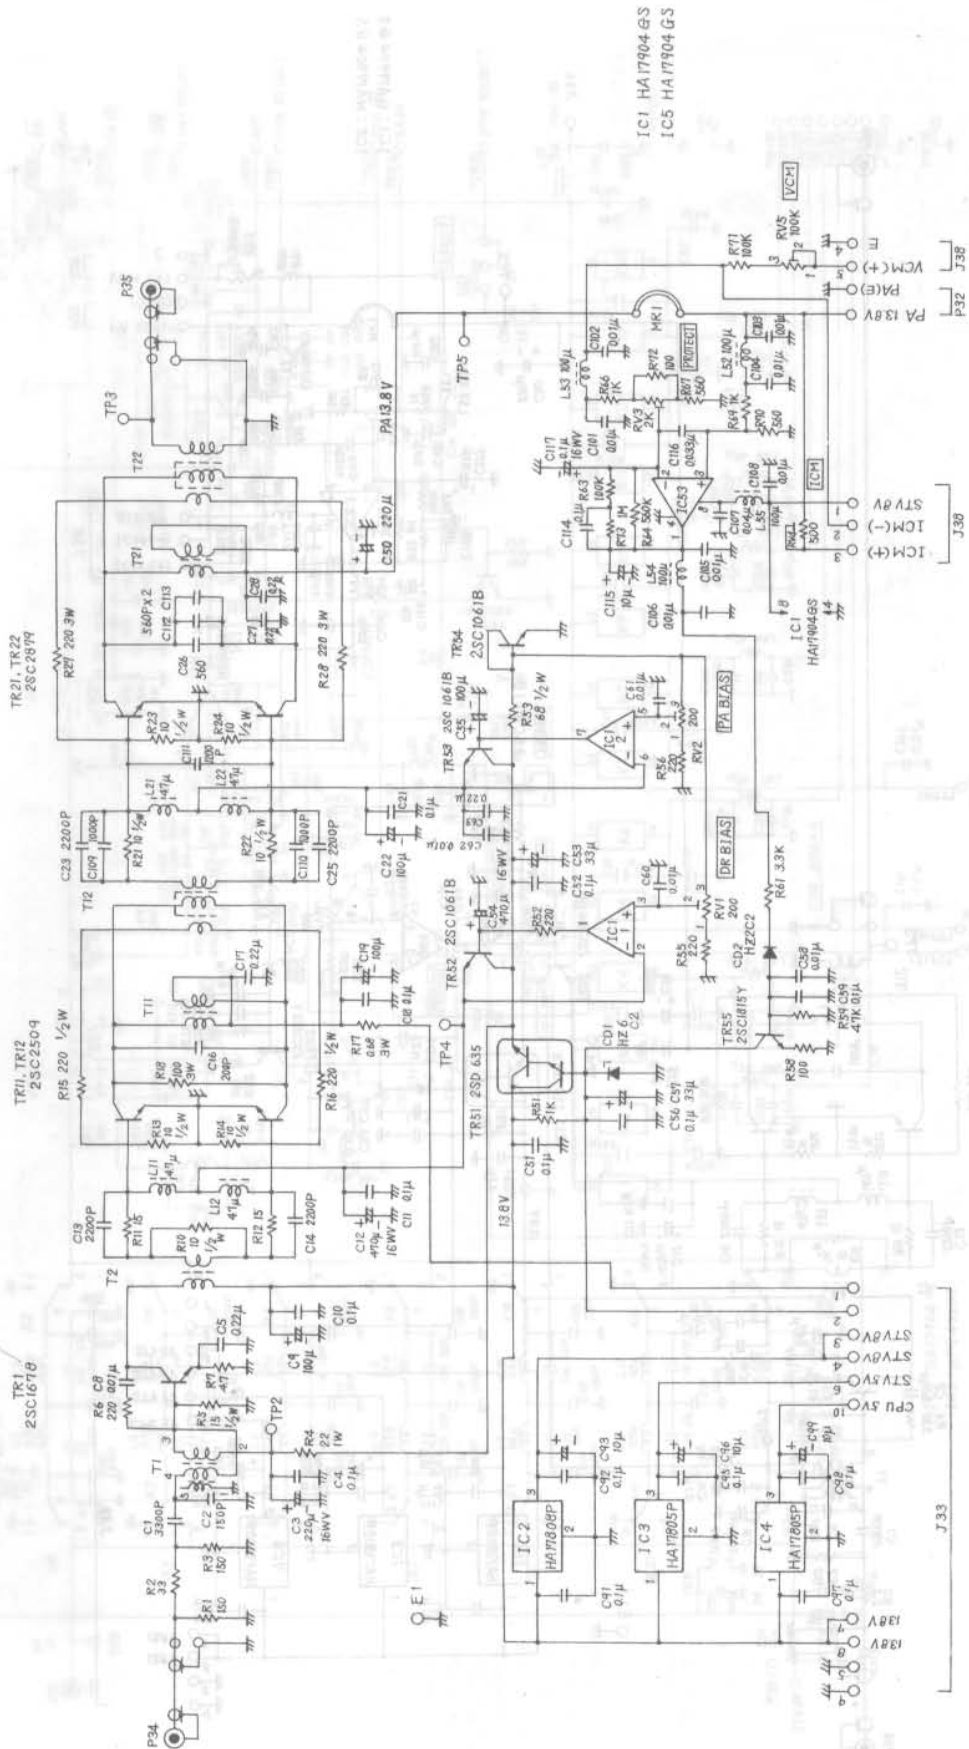

FIGURE 7.6 CAH-157 100W PA UNIT CIRCUIT DIAGRAM
- FIGURE 7.6 CAH-157 100W PA UNIT CIRCUIT DIAGRAM